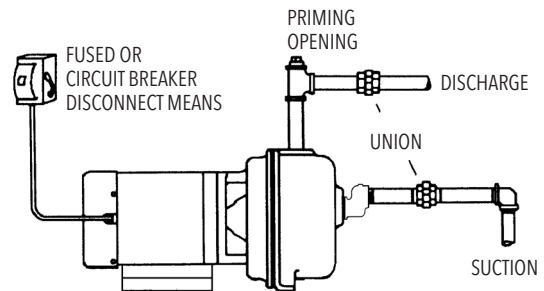

Figure 1
- Install an airtight union in the suction line close to the pump. See Figure 1.
- Install a tee at the discharge connection of the pump. The top opening of the tee is required for initial priming. See Figure 1.
- Fill pump through opening in top of tee with clean water. See Figure 1.